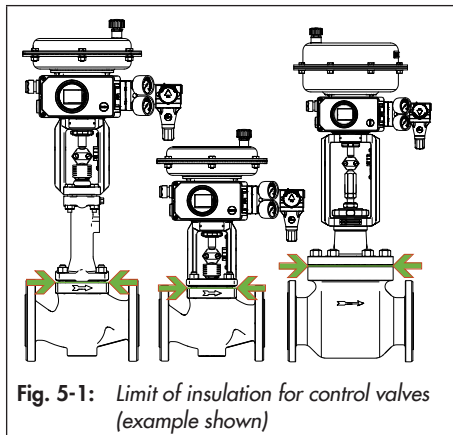

Fig. 5-1: Limit of insulation for control valves (example shown)
- Only insulate control valves up to the bonnet flange of the valve body (see Fig. 5-1). This also applies to versions with bellows seal or insulating section at medium temperatures below 0 °C or above 220 °C. If the insulating section is insulated, it will not function properly.